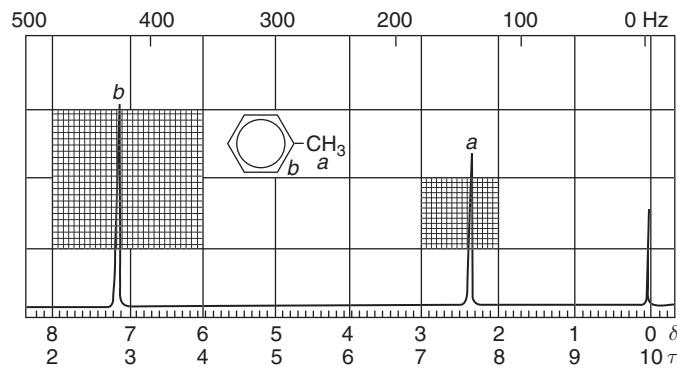

Figure 41 NMR spectrum of $\text{C}_6\text{H}_5\text{CH}_3$.
5. **Toluene:** The compound has eight protons (Figure 41). The protons of type a are methyl protons which are magnetically equivalent. The signal for these protons appear at δ 2.34. The protons of type b are aromatic and are not equivalent. These protons are of three kinds, two ortho, two meta and one para with respect to the substituent methyl group. Despite being non-equivalent, all these protons give rise to only one singlet signal at δ 8.18. This implies that the methyl group has no influence magnetically on the aromatic protons. The relative areas under two signals of the spectrum are in the ratio 3:5.